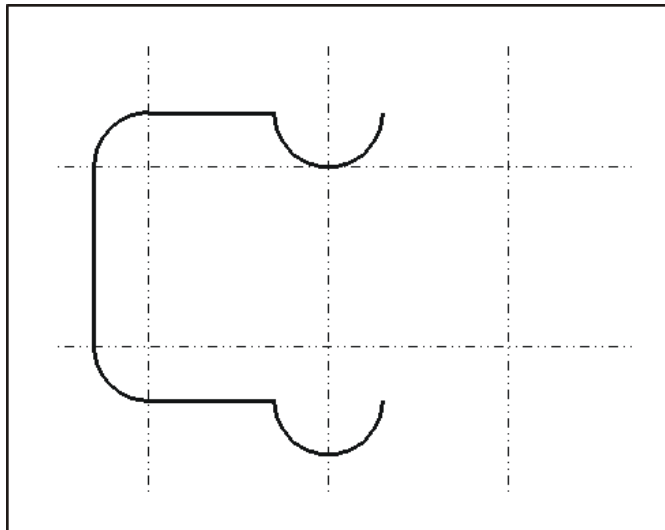

Figure P4–6 Result of drawing the left half of the base plate outline
Compare your completed centerlines to Figure P4–5.
This procedure draws the left half of the base plate outline using the Place Line, Fillet, and Arc tools, as shown in Figure P4–6. The figure shows the top arc as it is initially placed. The arc is mirrored after placement to correct its orientation.
STEP 1: In the Attributes tool box, set the **Active Level** to **Object**, set the **Active Color** to **white (0)**, the **Active Line Style** to **0 (solid line)**, and the **Active Line Weight** to **2**.
STEP 3: Invoke the Place Line tool from the Task Navigator tool box (active task set to Linear) and place three lines using the following precision key-ins (see Figure P4–7):